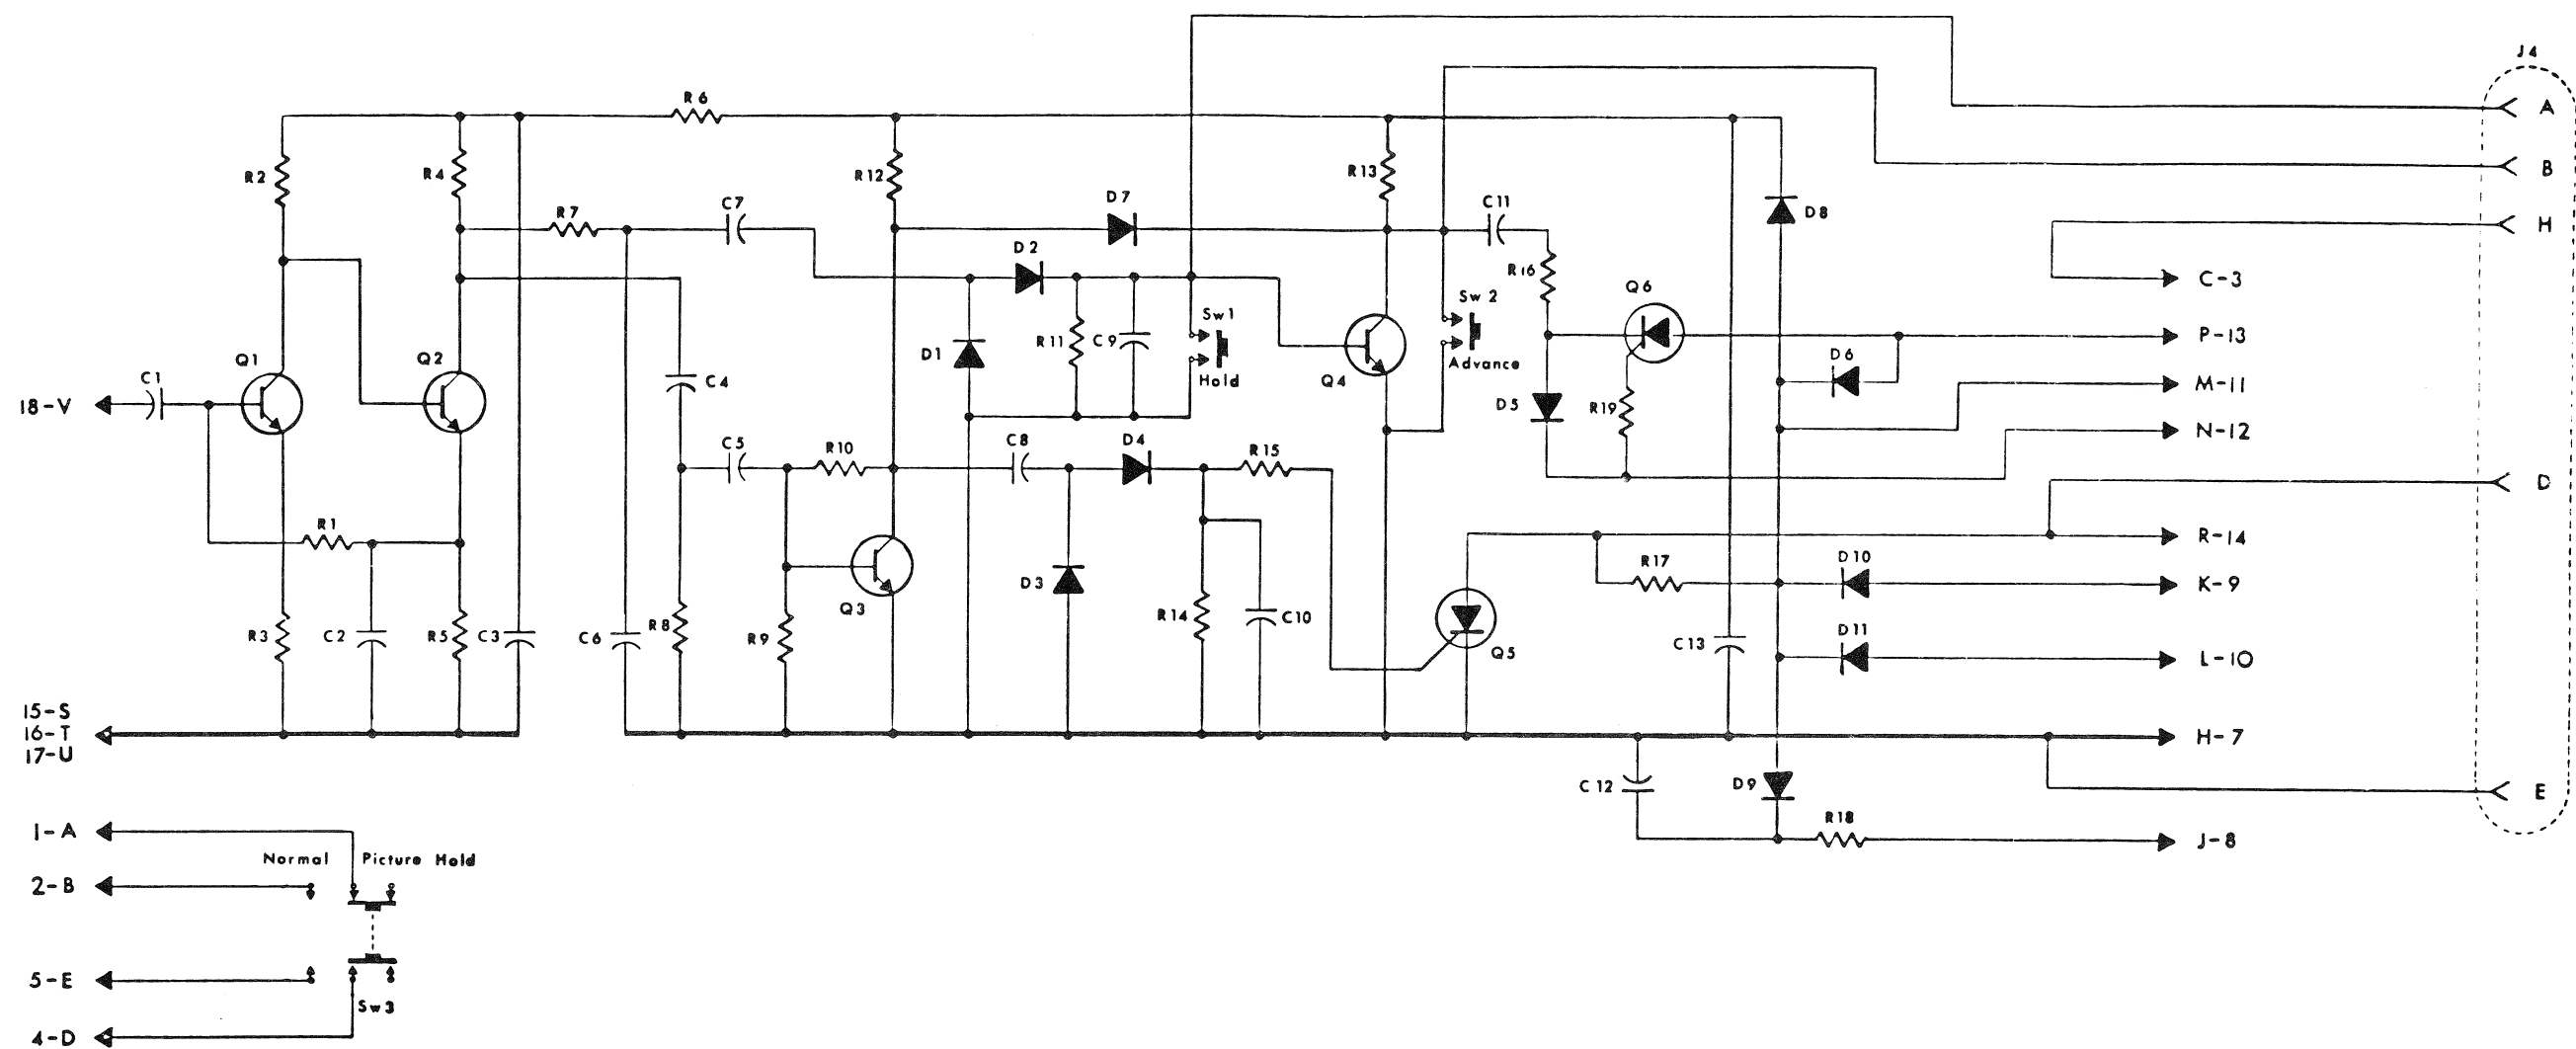

Figure 1-2 Switch Card
- 1.6 Electronic System; Theory of Operation (Refer to Figures 1-2 and 1-3).
signal, or high frequency shut-off signal, as recorded on the magnetic tape. Placing the PROGRAM switch in the HOLD position removes power to the tape drive motor and Audio Card permitting picture program frame advance circuits to operate independently of the program frame advance signal on the magnetic tape. When the PROGRAM switch is set in the NORMAL position, power is applied to the tape drive motor and Audio Card permitting normal operation of both audio and control signals from the magnetic tape to operate the unit. One of the purposes of the PROGRAM switch is to provide a means for synchronizing audio program to picture program. Momentarily pressing the PICTURE ADVANCE switch will activate the Advance Trigger circuit on the Switch Card. When the Advance Trigger circuit is activated, its advance solenoid is operated, and it mechanically advances the picture program, in the cartridge, by one frame. Continued momentary pressing of the PICTURE ADVANCE switch will result in additional picture program advancement. When the PICTURE HOLD switch is held in the HOLD position, the picture program advance signal (low frequency) from the magnetic tape is bypassed to ground and picture programming advance will not take place. The purpose of the PICTURE HOLD switch is to permit synchronization of picture program to audio program. Circuit theory of the Switch and Audio Cards will not be discussed since field repairs to these items is not recommended. Schematics for these cards are given in Figure 1-2 for information only.